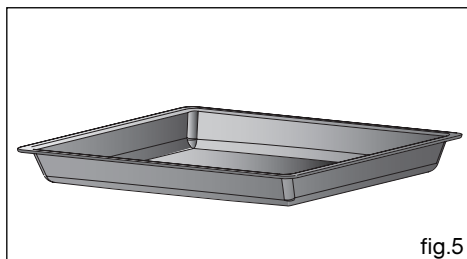

fig.5
- **Multi-purpose 45 mm dish (fig.5)**
- Clip in your last glass sheet by placing the indication "PYROLYSIS" so that it faces you (fig.5).